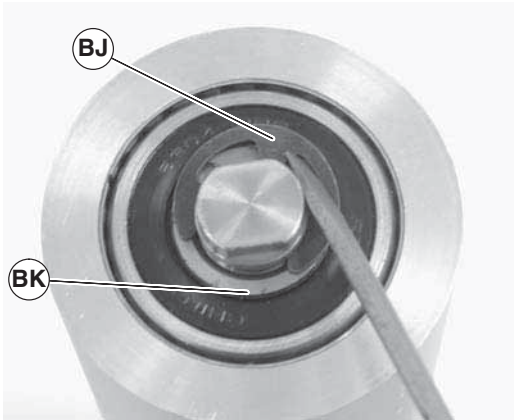

Figure 47
5. Remove the pulley shaft assembly: remove the clip ring (Figure 47, item BJ) and washer (BK) from one side of the pulley assembly.